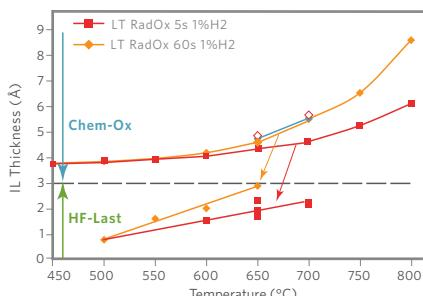

Figure 2. Radical oxidation enables controlled, repeatable IL scaling to 2Å for both gate-first and gate-last (shown above) processes.
Although ALD high- κ dielectrics relieved the EOT scaling roadblock when SiON reached its limit,^[5] extending Moore's Law to 2xnm and beyond now challenges high- κ logic gate stack scaling. Fortunately, proven solutions are available. The oxide interface layer (IL) has a low κ value; therefore, reducing its thickness will produce a large effect on overall EOT. Both rapid thermal oxidation and radical oxidation processes offer a means to scale the IL below 8Å,^[6] while scaling to 2Å can be achieved with radical oxidation (N₂O/H₂) in a controlled and repeatable fashion with a thermal budget compatible with either gate-first or gate-last sequences (figure 2). The κ -value of the ALD HfO₂ layer can be increased through post-deposition plasma nitridation and annealing, reducing the EOT by a further 1-2Å.